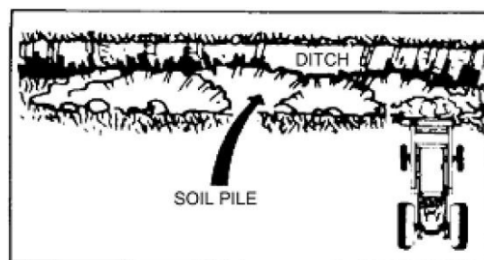

Fig 4.22. Maintain Right angles while dumping into a ditch.
- Operate at right angles to the ditch, take as big as the tractor can handle without lugging down shown in figure 4.22.